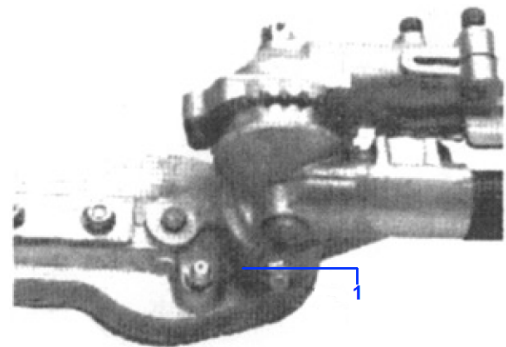

Fig.HT15
- c. Slide the gearcase out of the tube. Using a grease gun, pump lithium-base grease (about 10 grams) into the grease fitting on the gearcase until you see old grease being purged from the gearcase (Fig.HT15). Purged grease will be visible in the outer tube cavity. Clean up the excess grease and then reassemble the gear case onto the outer tube.